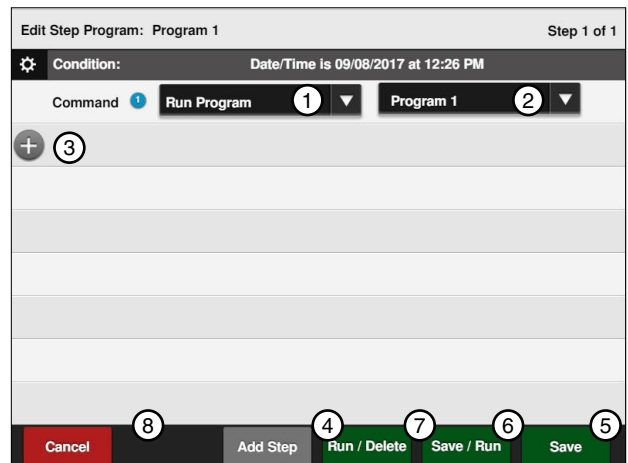

Figure 101-2 1. Choose Command 5. Save
5. When finished reviewing and if no changes were made, push the **Cancel** button. Refer to Figure 101-2.